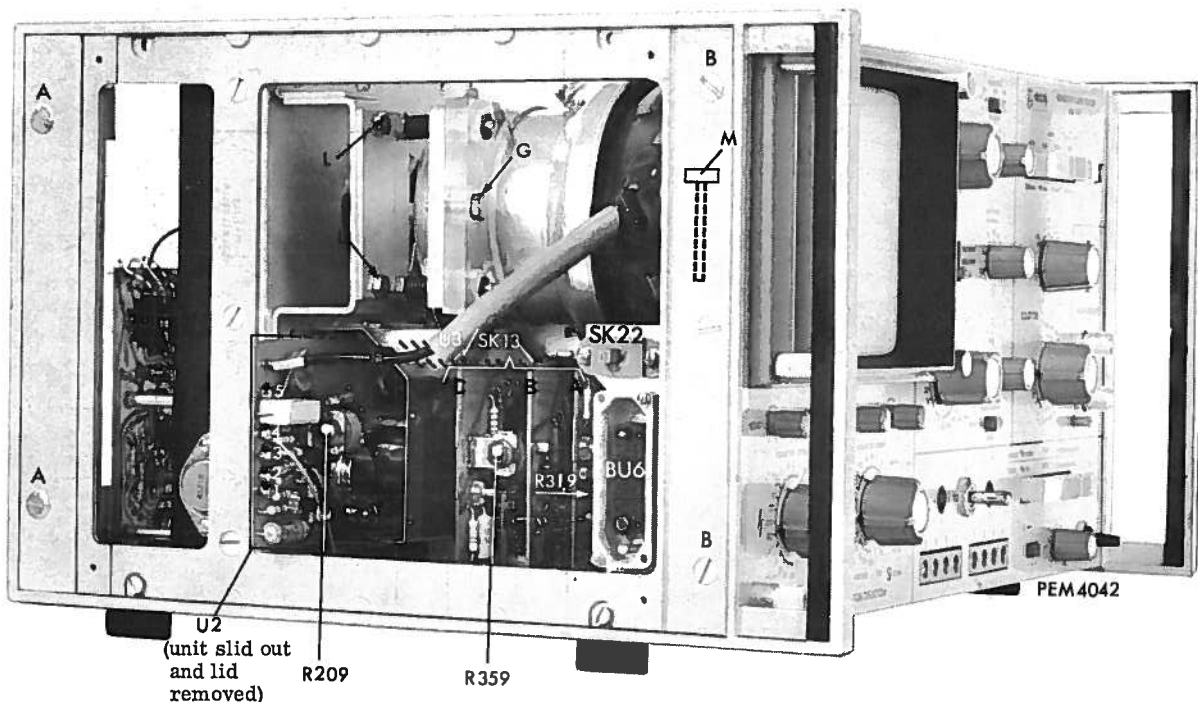

Fig. 62. Side view (left)
- Loosen screw M (Fig. 62) until the tensioning strip is loose.
- Remove the two fixing screws L (Fig. 62) and take out the complete holder with deflection unit.
- Tighten screw M of the tensioning strip (Fig. 62).
- Fit the yoke holder, by means of the two screws L (Fig. 62) and make sure that the plexiglass support properly fits against the yoke.
- Align the plexiglass support in the centre position and fix it by means of screw G (Fig. 62).
Secure the bracket on the plexiglass support with screw G (Fig. 62). The springs should now press the yoke against the picture tube.